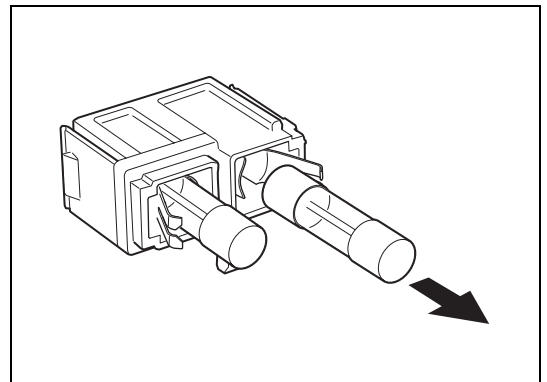

Figure 5.6
- 3 Position the fuse box so that its back is facing you and remove the fuses. (Refer to Figure 5.6.)